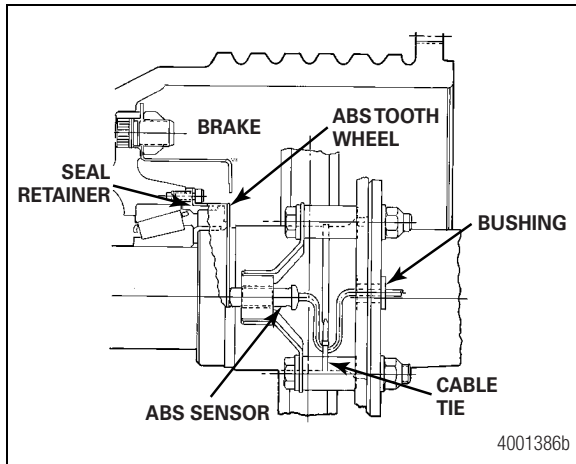

Figure 5.8
- With the ABS sensor block in contact with the housing, use the bolts, washers and nuts to secure the support bracket assembly to the brake spider. Use washers under the bolt heads and under the nuts. Tighten the nuts to hold the bracket in position. Figure 5.8.